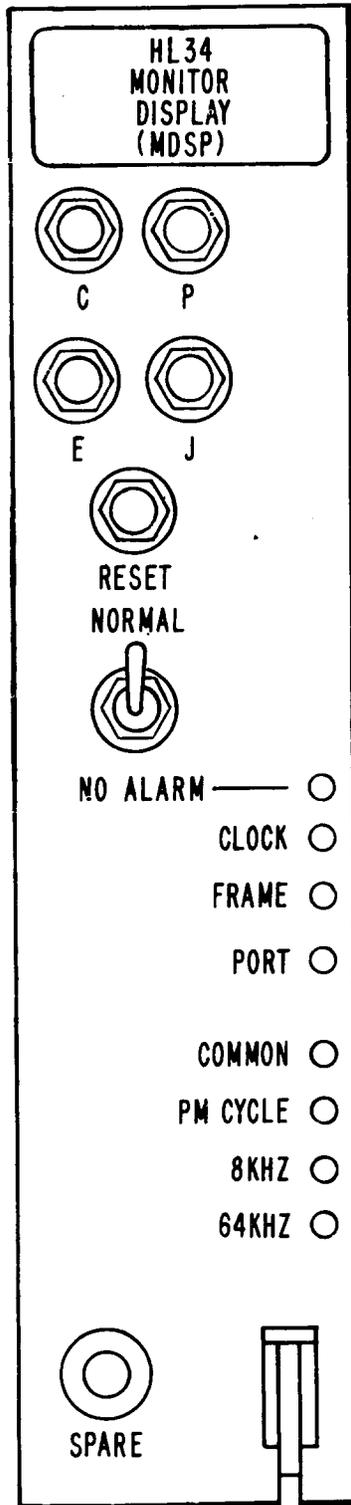

Fig. 1—T1DM-PM Display Circuit Pack, HL34
- 2.01** Check the T1DM alphanumeric displays, the T1DM-PM display circuit pack, HL34 (Fig. 1), and the bay alarm display on the bay clock, power, and alarms (BCPA) shelf or the local timing supply (LTS) and T1DM assembly.